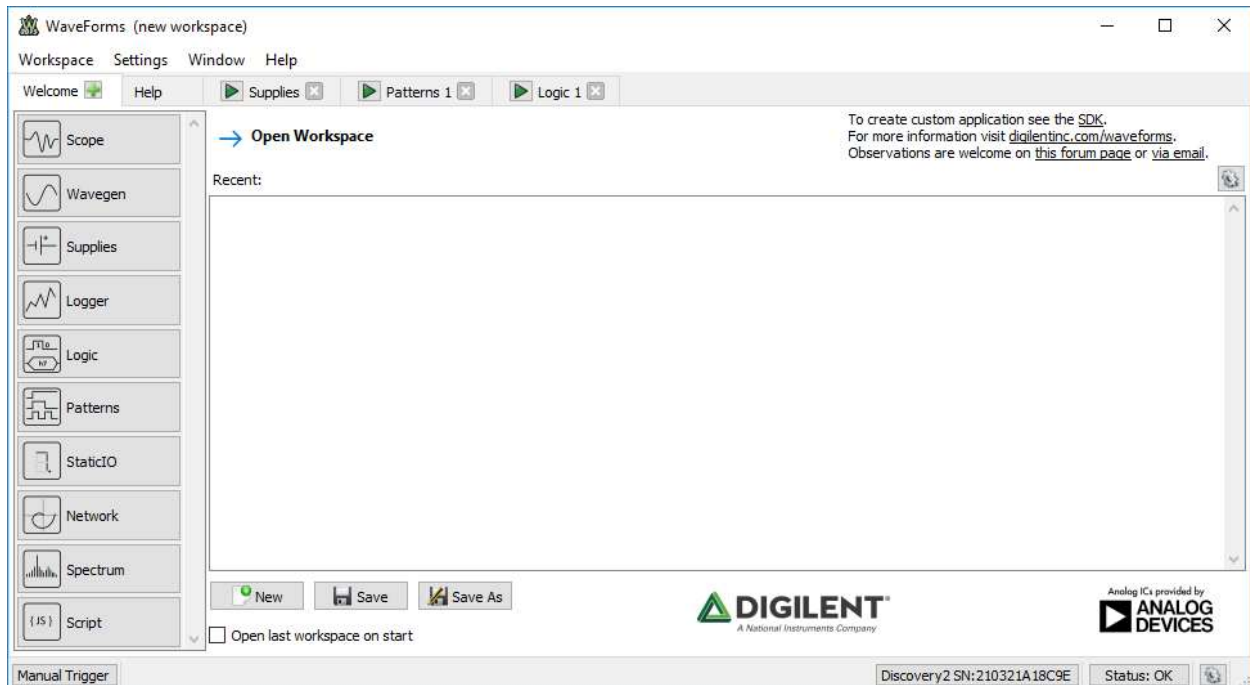

Figure 5: Waveforms with Voltage Supplies, Pattern Generator, and Logic Analyzer Tabs
2. **Push** the buttons for Supplies (batteries), Patterns, and Logic Analyzer. Each time you press the button the focus moves to that instrument. You can return to instrument selection by clicking on the Welcome tab. **Figure 5** shows the instrument control panels open in separate tabs and the Welcome tab re-focused.